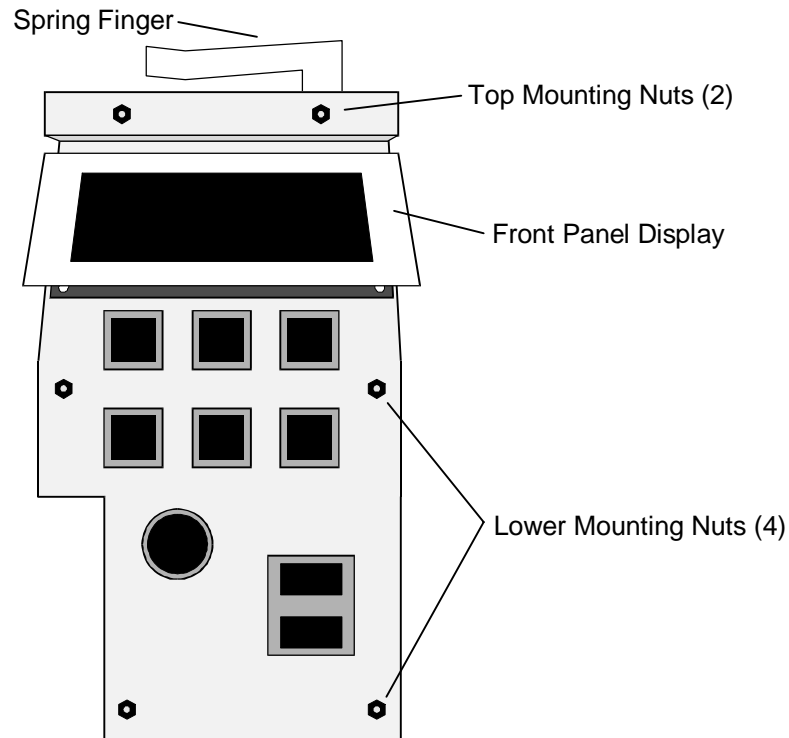

Figure 7-31 The Switch Bracket Assembly (Front Panel)
3. Remove all six mounting nuts from the Switch Bracket Assembly mounting studs using a 1/4-inch nutdriver (Figure 7-31).
12. Remove all six mounting nuts from the Switch Bracket Assembly mounting studs (Figure 7-31).
13. If the spacers and the Spring Finger were removed, mount the Spring Finger onto the top two mounting studs, then place two spacers onto the top two mounting studs. Place the four remaining spacers onto the four lower mounting Studs (Figure 7-31).
14. Slide the Switch Bracket Assembly onto the mounting studs (Figure 7-31).
15. Thread all six mounting nuts onto the mounting studs, then use a 1/4-inch nut-driver to tighten the mounting nuts until they are snug (Figure 7-31).